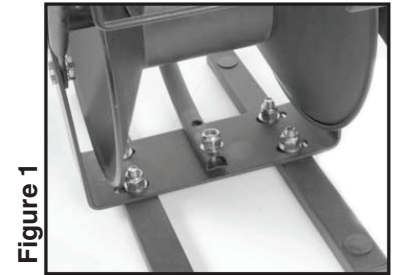

Figure 1
1. Attach support legs to mounting base, requires 4 (#1) bolts and 4 large lock nuts & washers. See Figure 1, also refer to Figure A & B illustration on page 1.